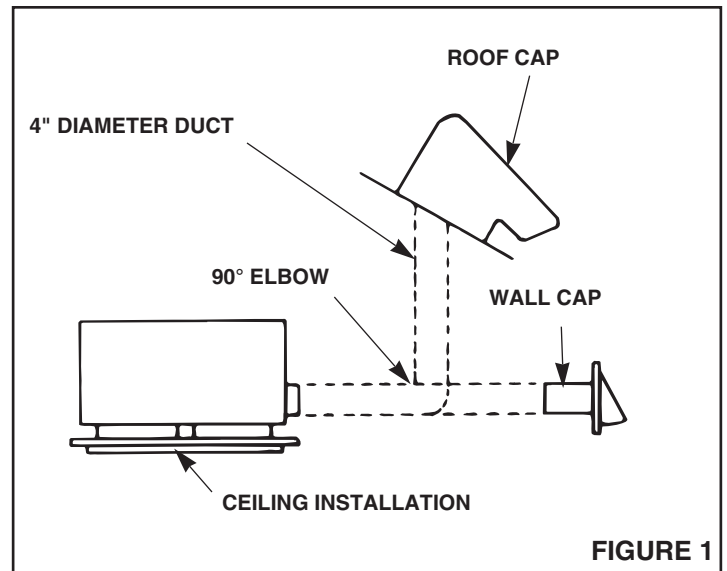

FIGURE 1
4. Refer to Figure 1. Use 4" round duct to discharge the ventilator to the outside.